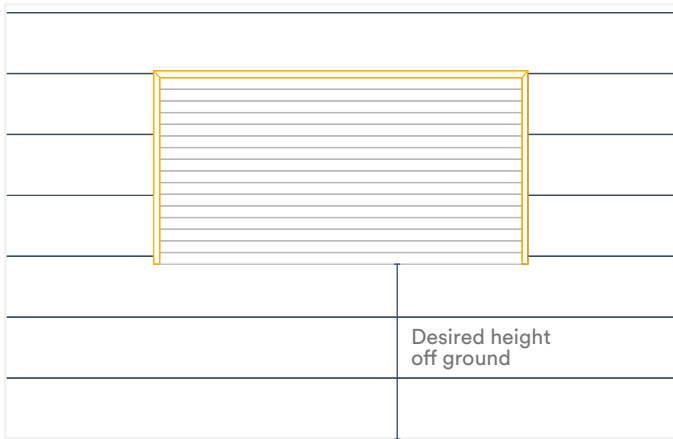
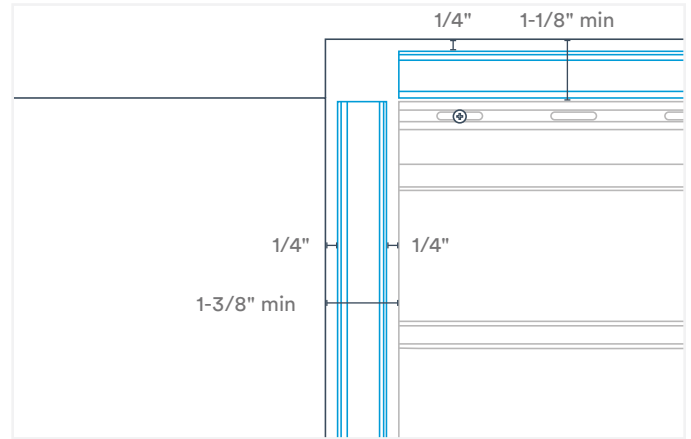

Fig. 7
Fig. 8
1. Refer to the image below for the recommended installation layout (Fig. 7) and appropriate spacing measurements (Fig. 8). It is critical to leave adequate spacing between Wall&CeilingBoard panels and the SlatWall panel area for the H Channel Snap-In Trim. Suggested spacing is the same for both horizontal and vertical Trusscore Wall&CeilingBoard install orientations.